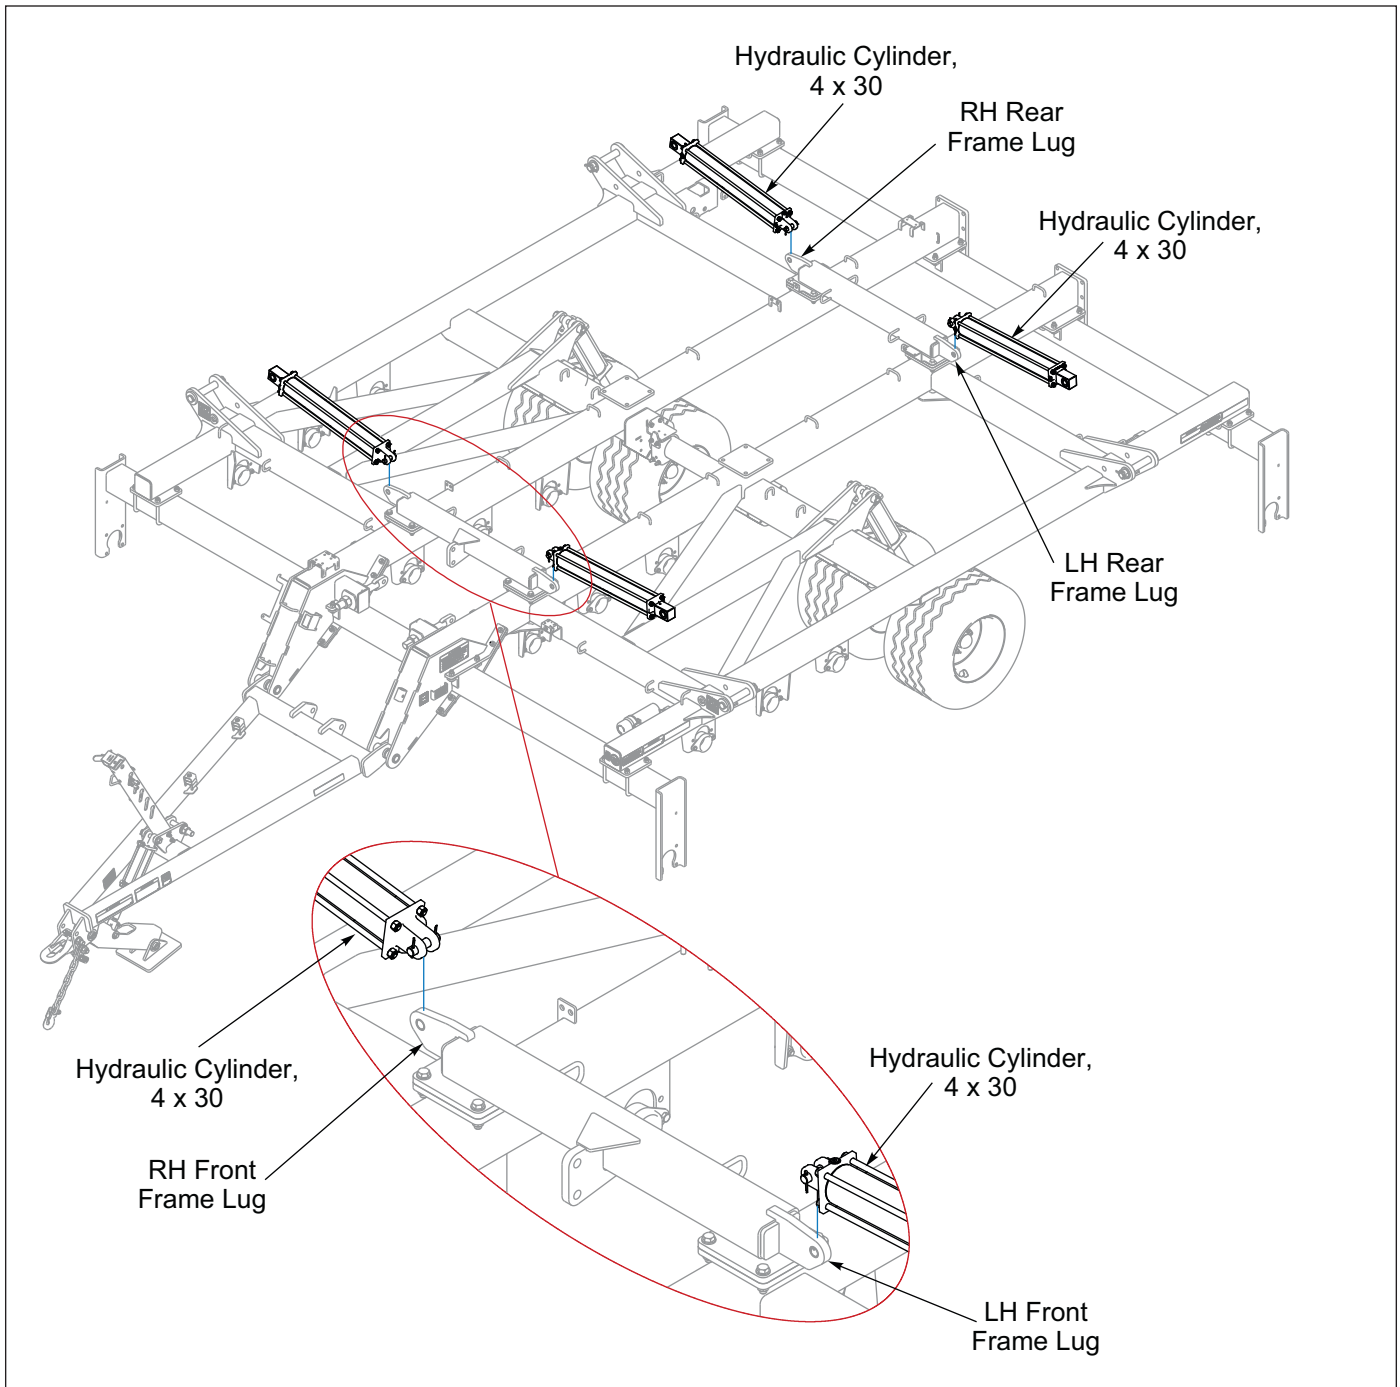

Figure 2-14: Wing Fold Hydraulic Cylinder Installation
1. Attach the four 4 x 30 Hydraulic Cylinders to the Front and Rear Frame Lugs with the vendor supplied hardware. **See Figure 2-14.**